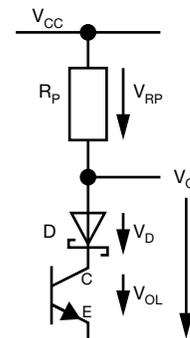

Fig. 3 - Voltage Divider
When the serial data line (SDA) is pulled down to the logic “L” stage, a voltage divider is formed by the pull-up resistor (R_p), Schottky diode (D), and the internal phototransistor C-E junction. The output voltage (V_O) is the sum of the Schottky diode voltage drop (V_D) and the voltage drop of the phototransistor output (V_{OL}), as shown in Fig. 3.